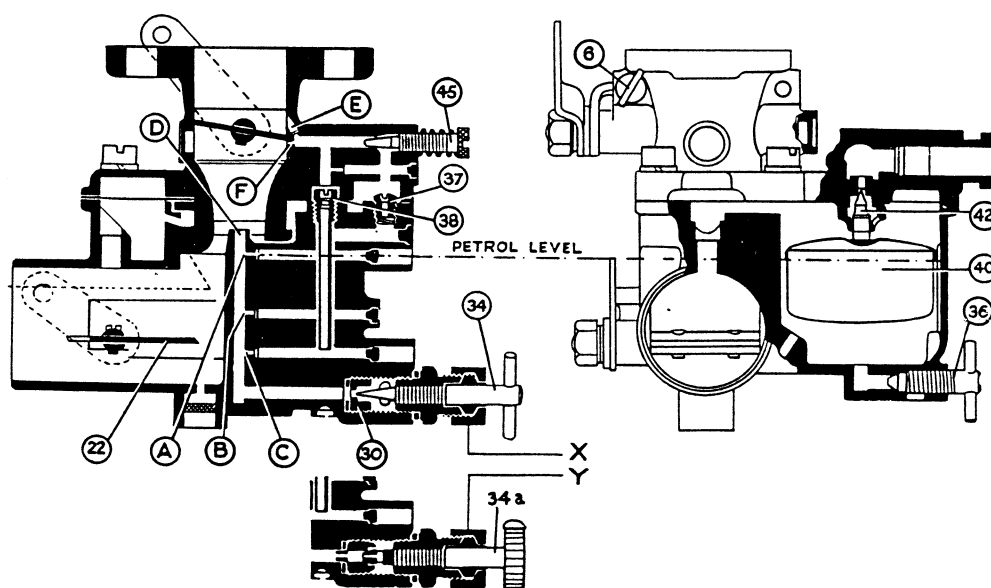

FIG. 18
**General Description. Fig. 18.**
This should be carried out when the engine is hot, the minimum running speed usually being set at 400 — 450 r.p.m. A spring-loaded adjusting screw (6), Fig. 18, is provided close to the throttle lever by means of which the exact throttle opening can be adjusted for idling. It should be turned clockwise to increase the idle speed and vice versa. The slow running mixture screw (45) will provide a richer mixture if turned in a clockwise direction. If, however, there is evidence of rich running, i.e. black smoke from the exhaust or hunting, this screw should be gradually turned in an anti-clockwise direction until the engine runs cleanly and evenly. The usual setting is about one complete turn open from the fully closed position.
### Standard Type Adjustable Main Jet (Fig. 18 detail X).
### Min. Max. Adjustable Main Jet (Fig. 18 detail Y).
Push inter-connection tube (20) into its seating in choke lever and adjust so that with a slight pre-load on the throttle lever (10) tending to keep the throttle in closed position, closing movement of the choke lever (25) will slide tube up rod to "kink" and open throttle just sufficiently to uncover progression orifice (see Fig. 18, item F).